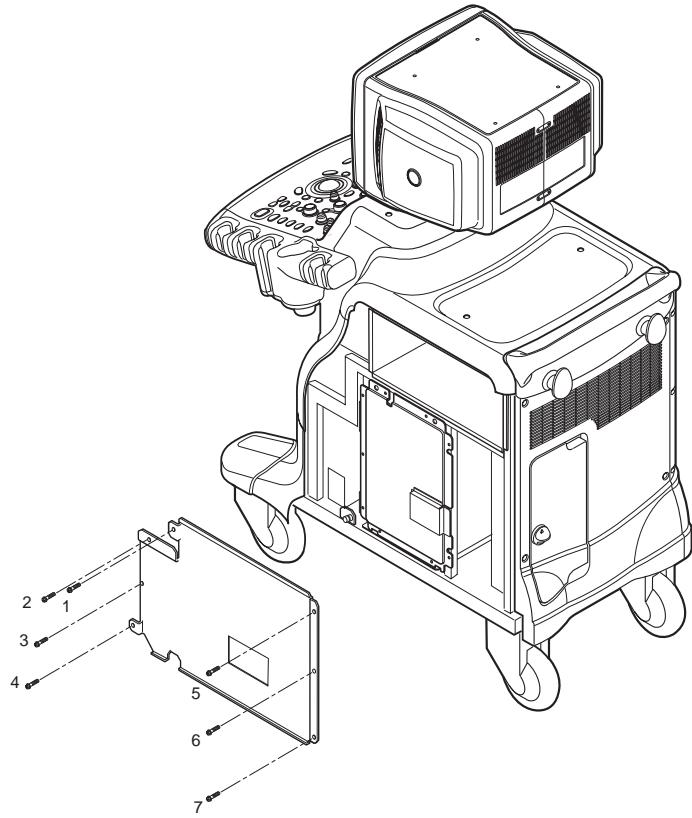

Figure 8-62 Removing the EMI Cover R
- 2.) Unscrew seven (7) screws (1-7).
- 3.) Remove the EMI Cover R. Refer to Figure 8-62.